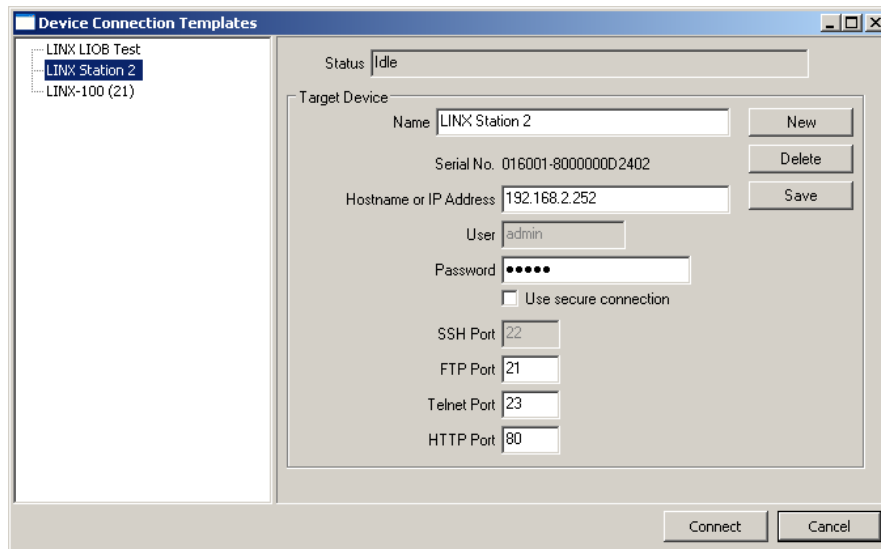

Figure 81: FTP connection dialog.
2. Select the menu: **Connection** → **Connect via FTP**. This opens the FTP connection dialog as shown in Figure 81.